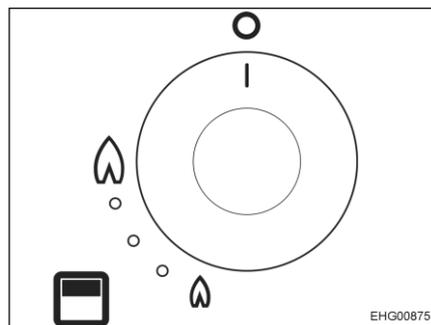

Fig. 129 Control knob for gas grill
- Press the control knob (Fig. 129) and turn it in an anticlockwise direction to the ignition position (large flame).